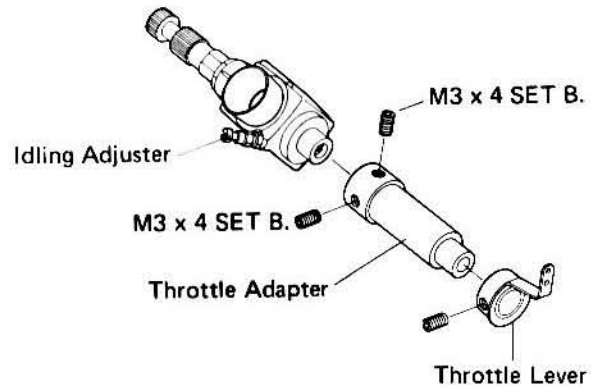

Fig. 1 O.S. ENGINE
- 1** The throttle lever must be extended whether O.S. or ENYA. Use the extension adapter as shown in fig. 1 and 2. Unscrew the idling adjust screw on the carburetor so it can be closed fully. Make sure that the throttle lever position and throws are as shown in figure 3.